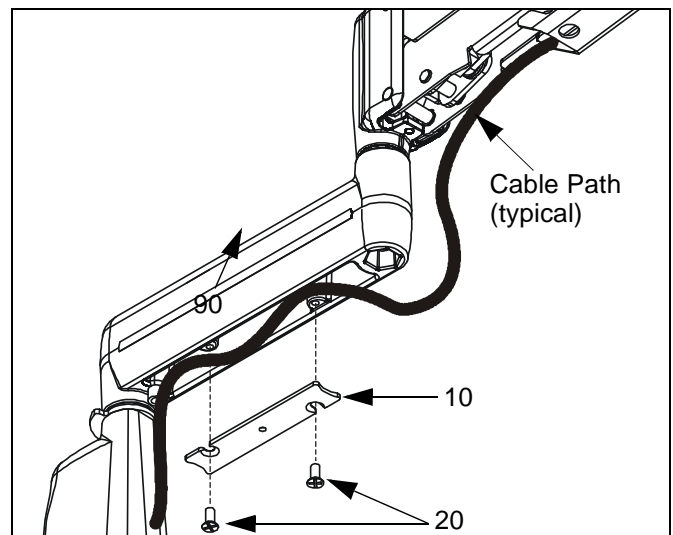

Figure 23: Static Arm - Cable Path
5. Carefully insert cables in cavity located in lower portion of mount arm (See Figure 23).
6. Using Phillips screwdriver, install cover (10) with two screws (20).